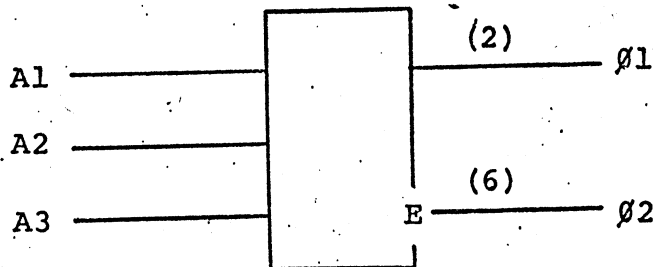

FIGURE 16
4. Non-symmetrical block lines may precede or follow the set of extendable input lines, if any. (See Figure 16.)
5. For circuit flyers to be used in card ALD schematic applications an extend output should be used to indicate the extend capability of inputs which exceed the maximum number of inputs in the main module. (See Figure 16, Example C)